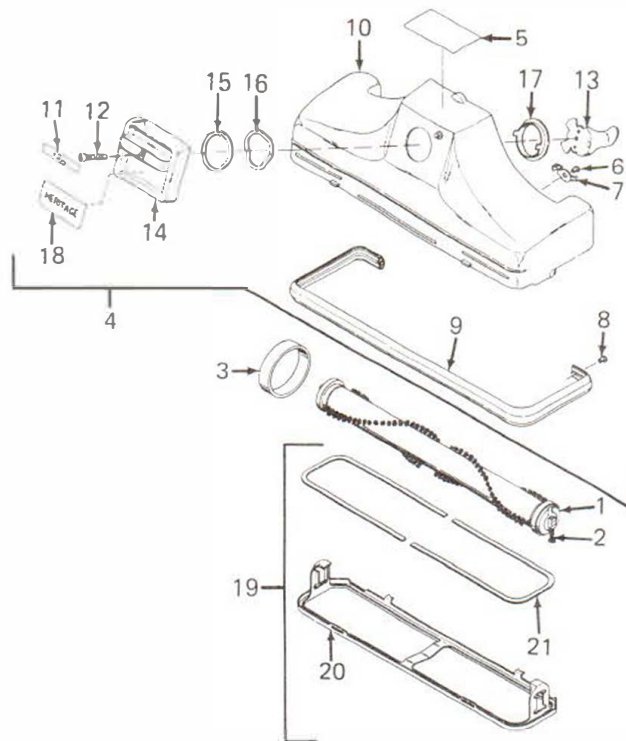

Figure 2-1. HERITAGE nozzle group, exploded view
The exploded view illustration in figure 2-1 shows all available parts for the Nozzle Group of the HERITAGE. The parts are drawn in proper relationship to each other to serve as an aid to disassembly and reassembly. Note the following:
(2) The brush roll height adjusting screws (2, fig. 2-1) are located at each end of the brush. Turn the adjusting screw clockwise to extend the brush so it protrudes more. Turn the adjusting screw counterclockwise to retract the brush so it protrudes less.
(3) Check and adjust the brush at each end of the nozzle to obtain the proper adjustment. Replace the brush roll assembly (1) when the bristles of the old brush are worn too short to make adjustment practical.
c. Remove adjusting screws (2, fig. 2-1) from the ends of the brush roll. Carefully spreading the rug plate arms, work the brush roll out of the plate.
d. Install a new brush roll (1), rug plate assembly (19), or belt (3) as required. Replace the adjusting screws and close the rug plate on the nozzle body, securing it with the two latches (9).
(2) Place spring washer (16, fig. 2-1) then flat washer (15) over the tabs of the bearing from the outside of the nozzle body.
(4) When positioned properly, screw (12, fig. 2-1) lines up with the threaded hole in hook (13). Thread the screw into the hook and securely fasten the assembly in place. Replace the lifter label by inserting each end into the notches on the lifter bar and pressing the center of the label until it slips into place.